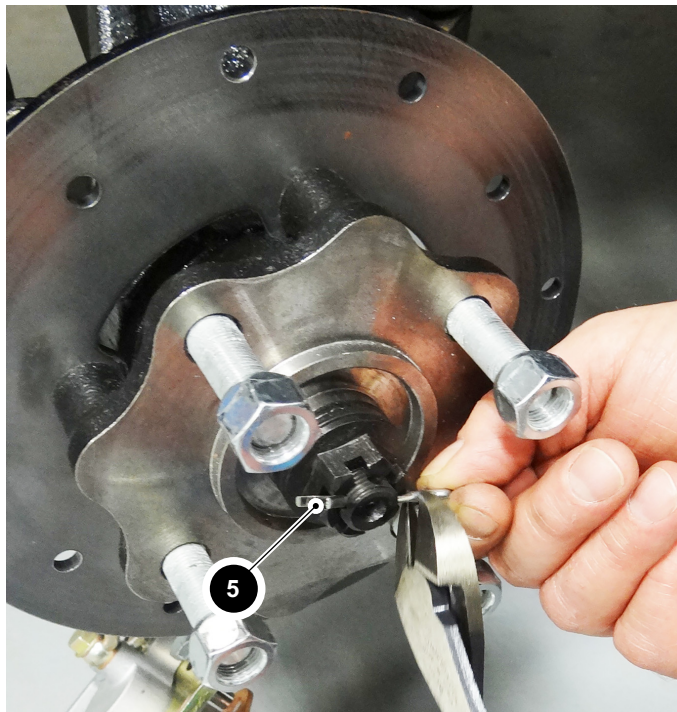
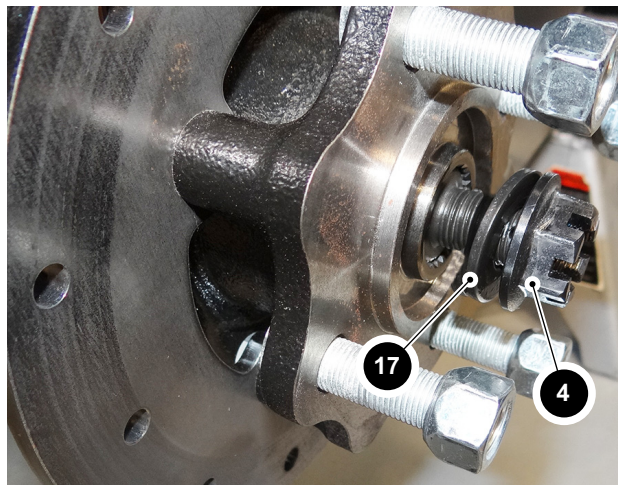

Fig. 2 Cotter Pin
Fig. 3 Axle Nut and Washer
4. At the center of the hub, remove the cotter pin (5), axle nut (4) and washer (17) from the axle. (Ref. Fig. 2)(Ref. Fig. 3)
- 9. Install a new cotter pin through the axle nut and axle. Bend the cotter pin (5) around the axle to secure (See Fig. 2).